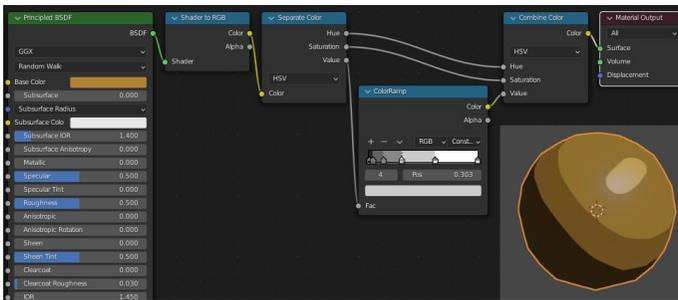

Figure 13-1 Simple Cell shading using the color ramp node
2. To set up a very simple arrangement of material nodes as shown in Figure 13-1, increase the size of the bottom window area and switch it from Timeline to Shader Editor. Change the name of the material from Material to comic. To see the results of changes to the node arrangements you will need to change the